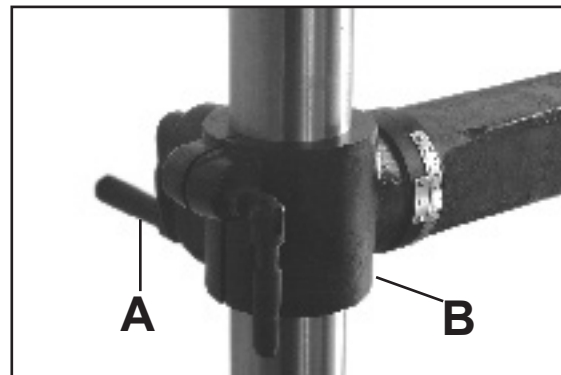

Figure 19
1. Loosen the column lock (A-Fig. 19) on the table support bracket (B-Fig. 19).
3. Tighten the column lock (A-Fig. 19).